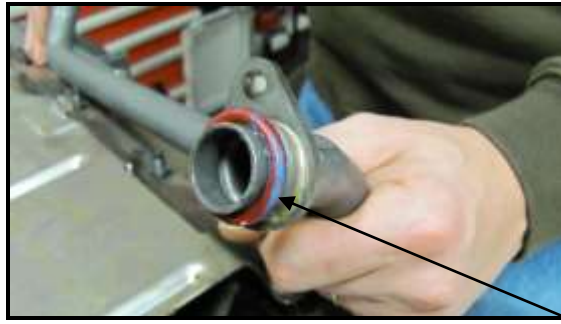

Figure 4
2. Install the supplied O-ring onto the oil pump pickup screen assembly and lubricate with clean engine oil (**Figure 4**).